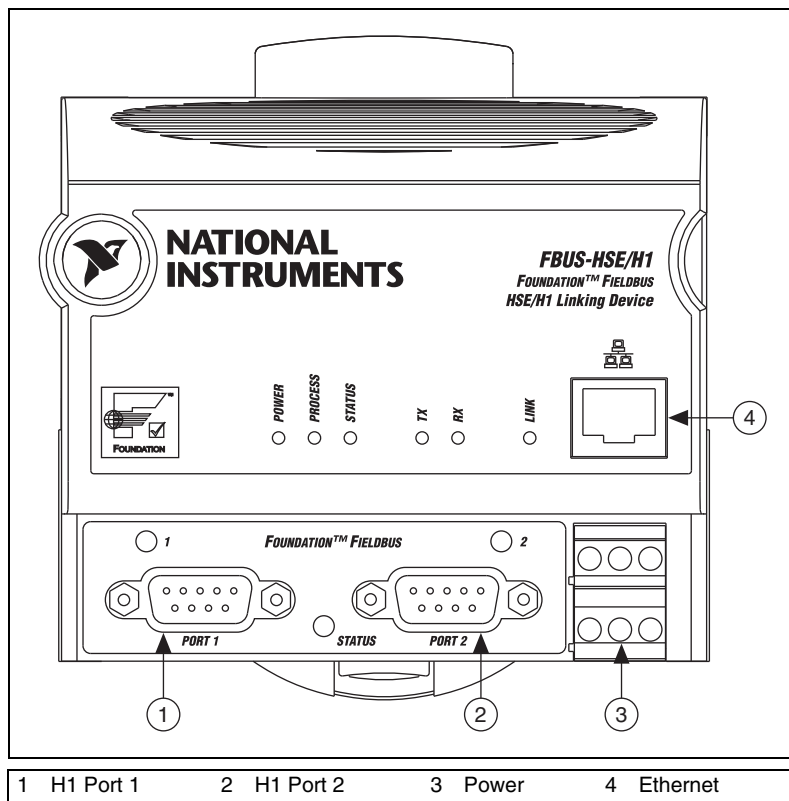

Figure 2-12. Connectors on the FBUS-HSE/H1 LD
5. Figure 2-12 shows the power, H1, and Ethernet connectors on the FBUS-HSE/H1 LD.